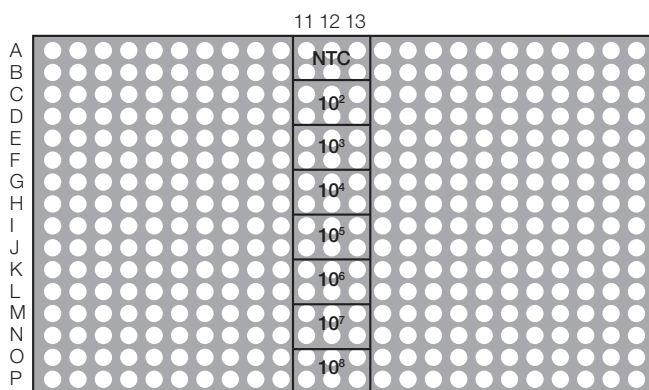

Fig. 2. 384-well plate layout — 10 μ l/well.
1. Pipet six replicates of each reaction into a 384-well plate using 10 μ l per well (Figure 2). Start pipeting the lowest concentration first, ending with the highest concentration. A 100 μ l electronic repeat pipeter is helpful, but is not required.